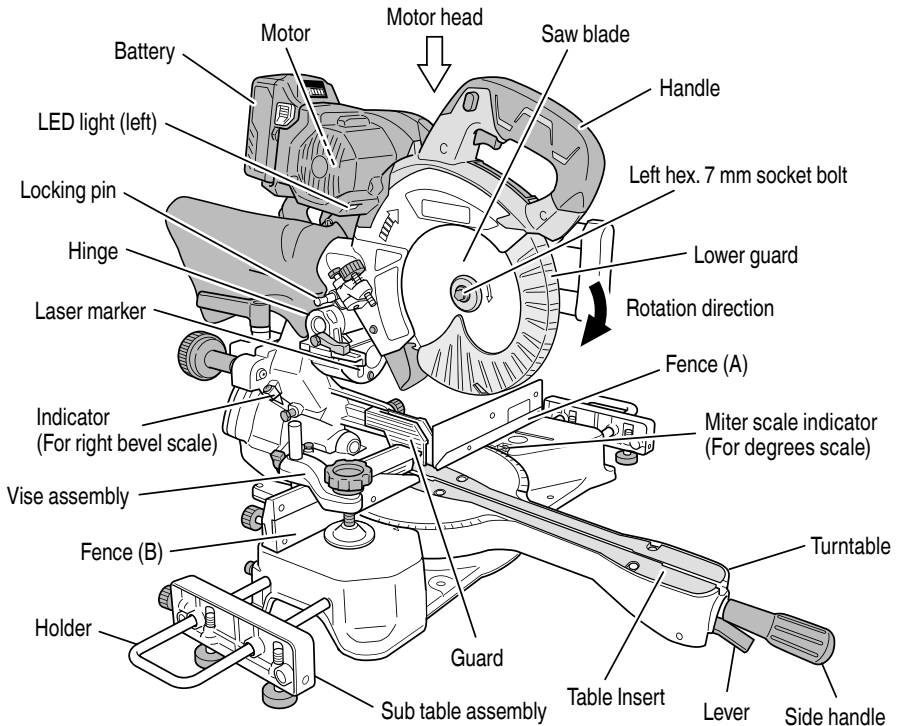

Fig. 2
6. Installing the side handle (Fig. 2)